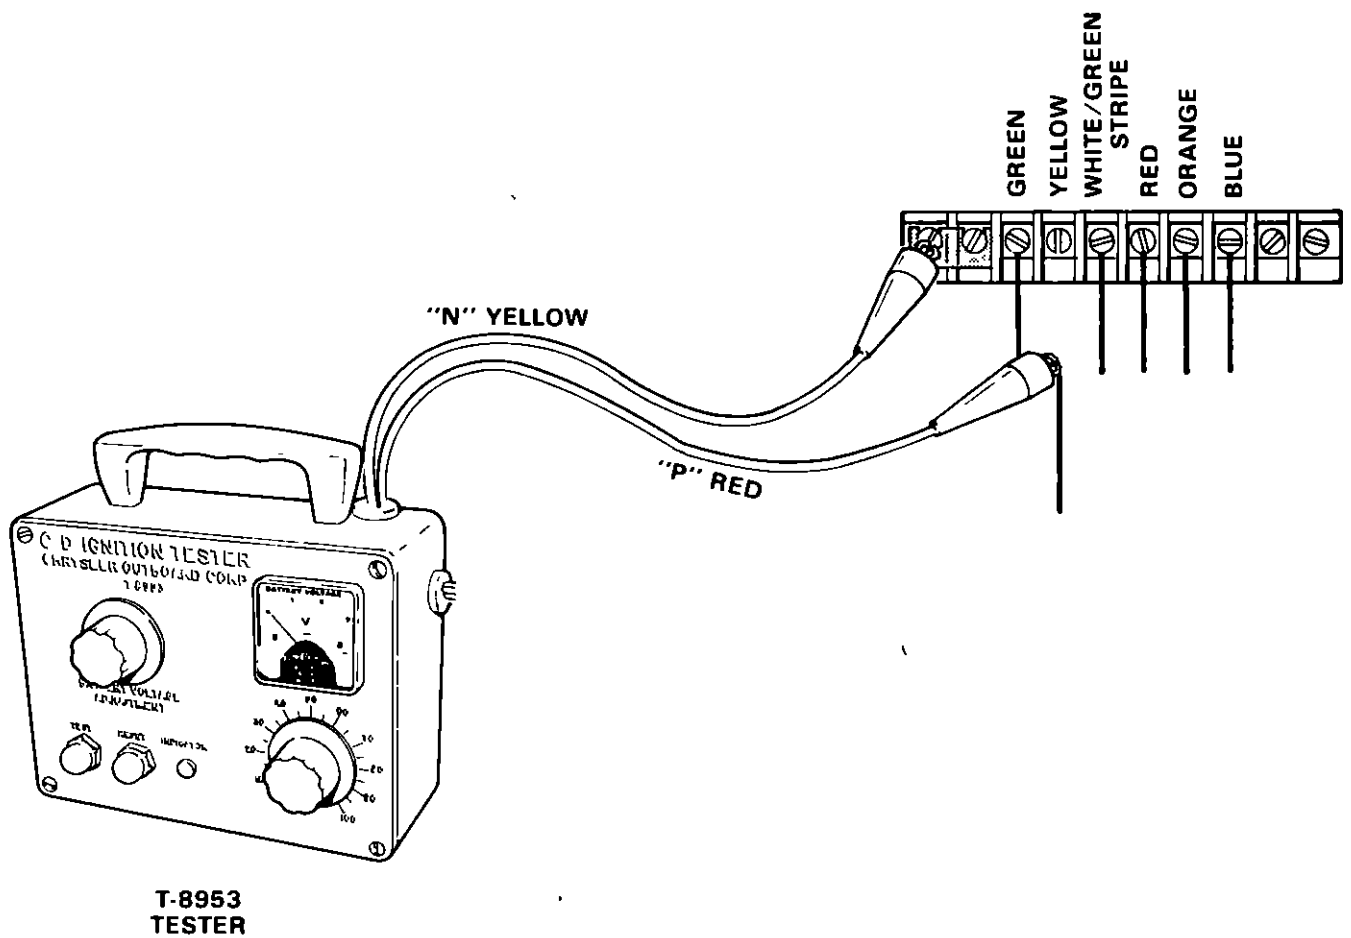

Figure 6
- 2 Connect "P" lead (red) of T 8953 Tester to yellow wire, Figure 6
terminal, Figure 6